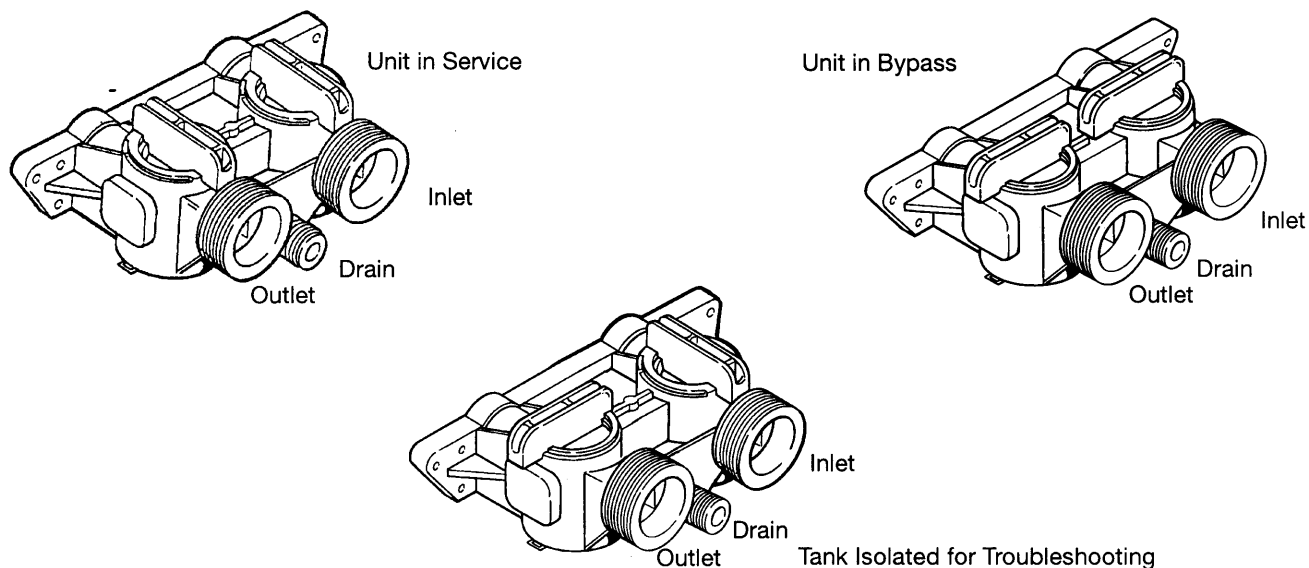

Figure 3
- Each tank and valve pair can operate alone to provide soft water if the other is taken off-line for service or maintenance. This is achieved through the use of the 256 Bypass (Figure 3).